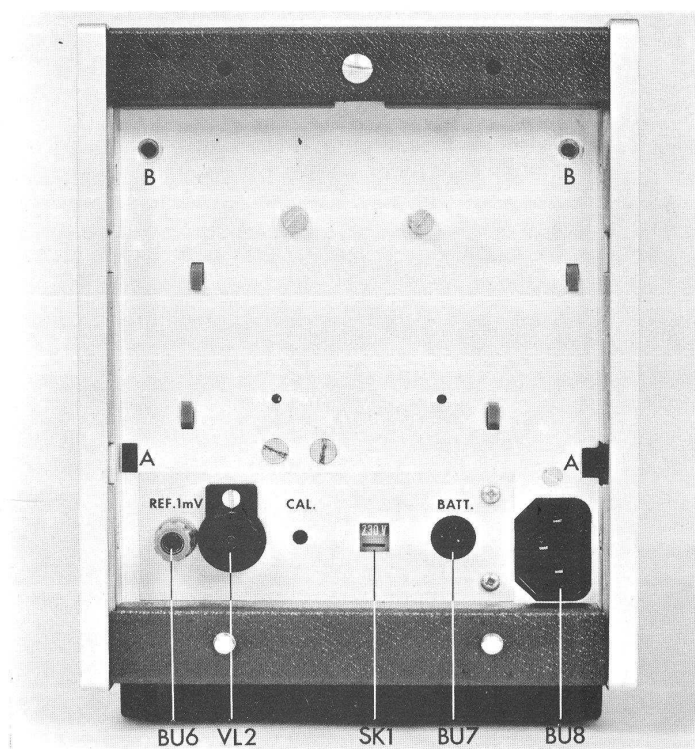

Fig. 5.
To fit the battery supply unit PM 9204 to the rear of the instrument, allow its projections to engage the recesses A, Fig. 5, and secure the unit with screws B.
If necessary, the deviation can be corrected by means of potentiometer "CAL" (Fig.5).
- Check whether SK1, Fig. 5, is set to the position corresponding with the local mains voltage.